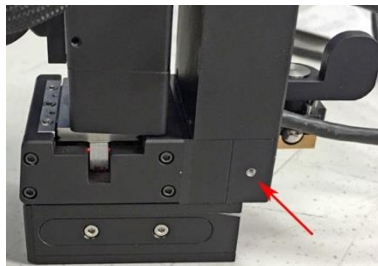

Figure 7. Micromanipulator grounding point
- Ground **EACH** micromanipulator in the system from the point shown in Fig. 7 by putting ground wire under cap of the M2 screw.